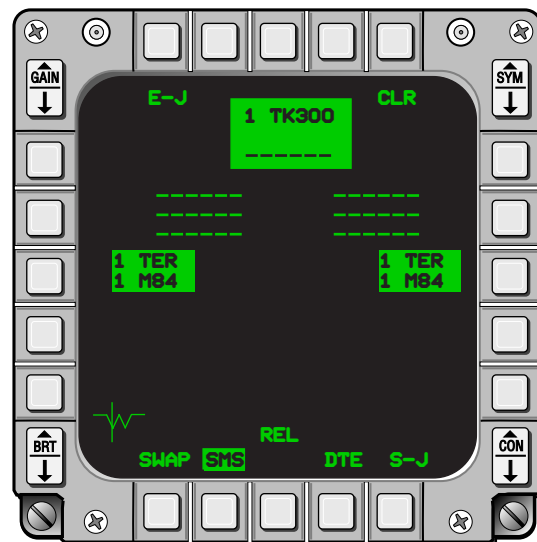

Figure 1-41 SMS Emergency Jettison Page
**Emergency Jettison Page.** Emergency Jettison is a one-step operation that clears all conventional stores stations 1 through 7. A-A missiles loaded on stations 1 through 3 and 7 through 9 are not jettisoned. The pilot commands an emergency jettison by activating the EMER STORES JETTISON button on the landing gear panel. The SMS E-J page (Figure 1-41) is displayed as long as the EMER STORES JETTISON button is depressed. Only stores to be jettisoned are displayed on the E-J page. When the EMER STORES JETTISON is released, the system returns to the overridden mastermode page on the CMFD.